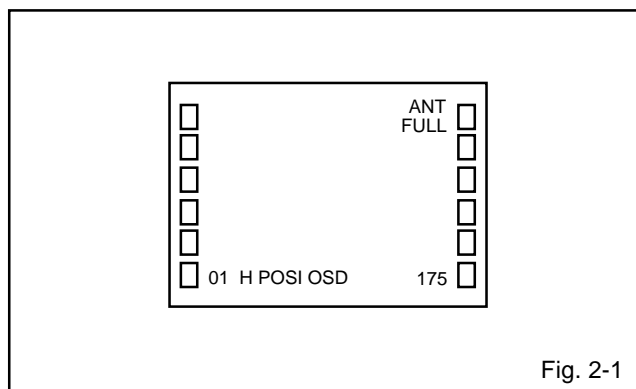
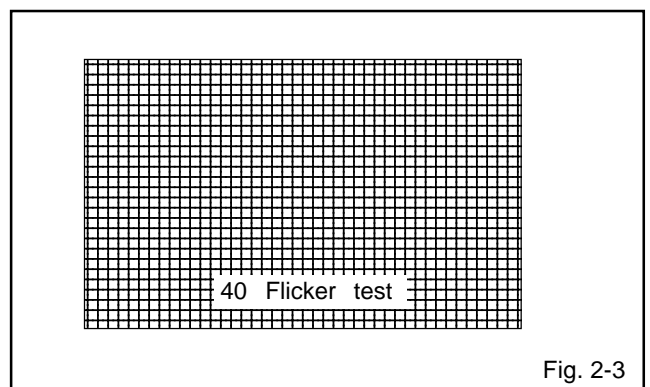

Fig. 2-1
Fig. 2-3
2. Press the VOL. DOWN button on the set and the channel button **(9)** on the remote control for more than 2 seconds to display adjustment mode on the screen as shown in **Fig. 2-1**.
1. Activate the adjustment mode display of **Fig. 2-1** and press the Channel UP/DOWN button to select "40 Flicker test". (**Refer to Fig. 2-3**)
5. Activate the adjustment mode display of **Fig. 2-1** and press the channel button **(03)** on the remote control to select "R DRIVE (N)".
7. Adjust the VOL. UP/DOWN button on the remote control to whiten the R CUT OFF(N), B DRIVE(N), B CUT OFF(N), R DRIVE(C), R CUT OFF(C), B DRIVE(C), B CUT OFF(C), R DRIVE(W), R CUT OFF(W), B DRIVE(W) and B CUT OFF(W) at each step tone sections equally.
5. Activate the adjustment mode display of **Fig. 2-1** and press the channel button **(34)** on the remote control to select "CONT MAX".
5. Activate the adjustment mode display of **Fig. 2-1** and press the channel button **(26)** on the remote control to select "BRIGHT CENT".
14. Activate the adjustment mode display of **Fig. 2-1** and press the channel button **(26)** on the remote control to select "BRIGHT CENT".